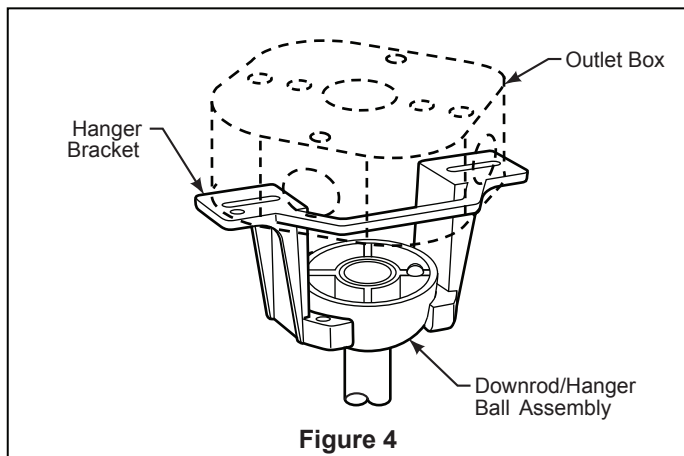

Figure 4
- 4. Install the clevis pin, hairpin clip and tighten set screws. The clevis pin and hair pin clip must be properly installed to prevent the set screws from working loose. (Figure 4)
2. Carefully lift the fan and seat the downrod/hanger ball assembly on the hanger bracket that was just attached to the outlet box. Be sure the groove in the ball is lined up with tab on the hanger bracket. (Figure 4)
-  : Controls light-Infinite light levels are available by holding the light on/off button (Figure 4).